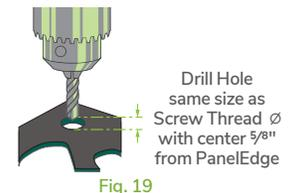

Fig. 19
- Pre-drill panels with $\frac{1}{8}$ " holes – same size as screw thread \varnothing (Fig. 19).